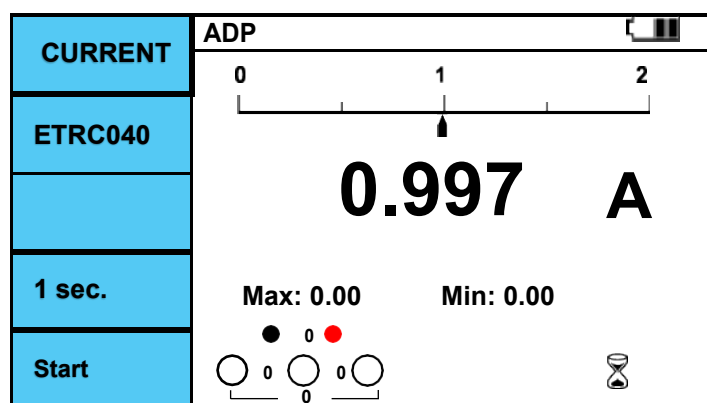

Figure 6.10.4 Adaptor/ Current Clamp Measuring.
- Fig. 6.10.4 Press the F5 button during Adaptor / Current Clamp measurement.